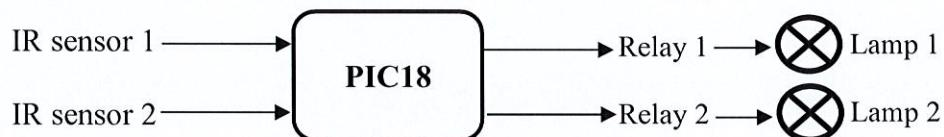

Figure B1 / Rajah B1
Figure B1 illustrates a lamp system controlled by PIC18. Two (2) infra-red (IR) sensors (NPN output) are connected to PIC18 at pin RA0 and RB0 respectively. Two (2) lamps are connected to two (2) relays. These relays are connected to PIC18 using pin RD6 and RD7. Relay will be switched on and off based on the output of IR sensors as shown in Table B1. Lamp will be switched on every time the relay is on.